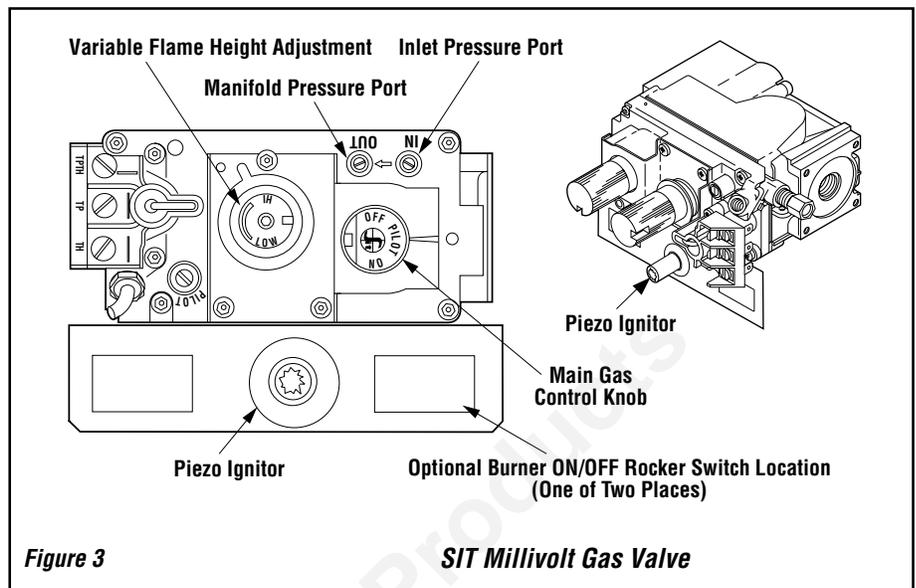
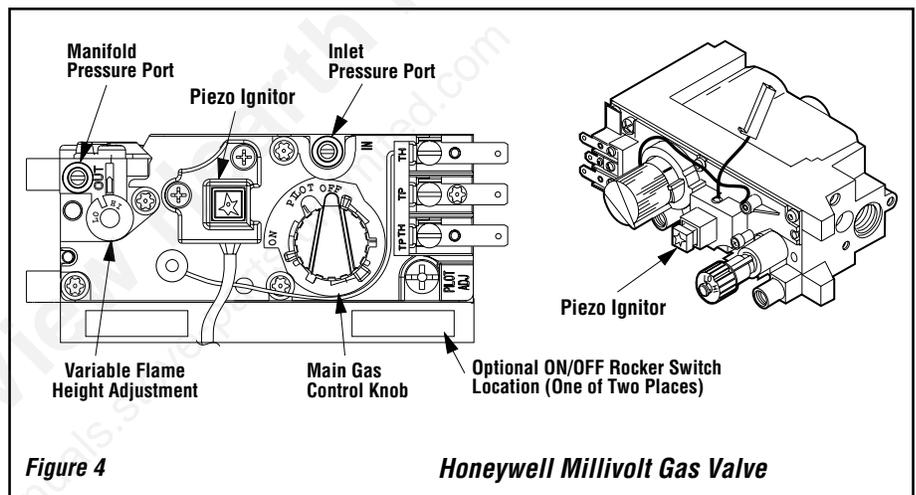

Figure 3
Figure 4
Millivolt appliances will be fitted with the gas control valve shown in *Figure 3 (SIT)* or *Figure 4 (Honeywell)* on page 4.
To light millivolt appliances refer to the detailed lighting instructions found on *page 13 (English)* and *page 14 (French)*. Millivolt appliance lighting instructions may also be found on the pull-out lighting instruction labels attached to the gas control valve. Refer to *Figure 3 (SIT)*, *4 (Honeywell)* on page 4 for the location of the piezo ignitor.
1. All Millivolt appliances are equipped with a variable gas control valve. Flame height for these models may be adjusted through a range between fixed low and high settings, alternately, while the appliance is in operation. Adjust the flame height as desired after lighting the appliance by rotating the variable adjustment control knob located on the front of the valve (*refer to Figure 3 - SIT, 4 - Honeywell*).